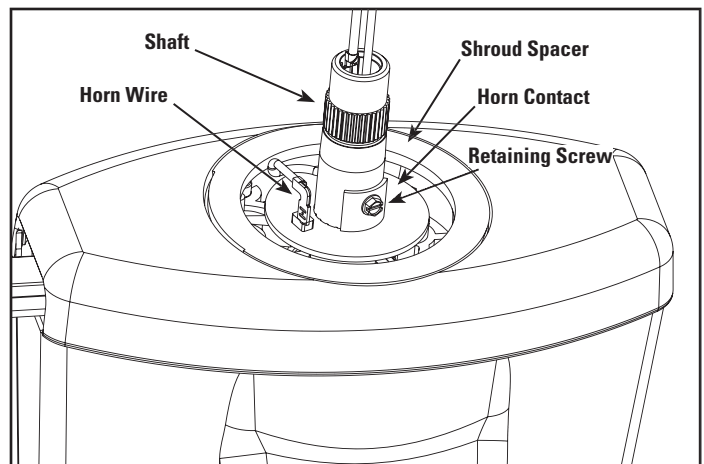

Figure 1
4. Remove shroud spacer ring. Remove the retaining screw for the horn contact/cancel pin assembly and discard. Disconnect the horn wire from the horn contact/cancel pin assembly. Remove horn wire. (Figure 1)